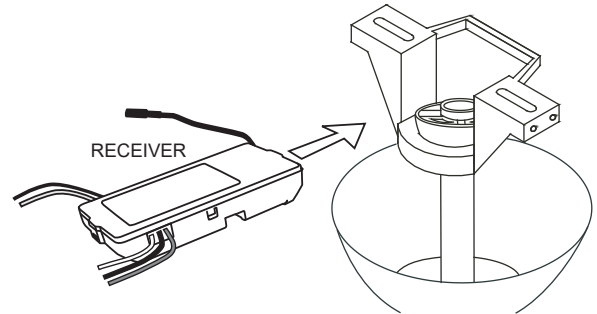

Fig. 1
- Lay the black antenna wire on top of the receiver, and put the receiver in the mounting bracket. (Fig. 1)